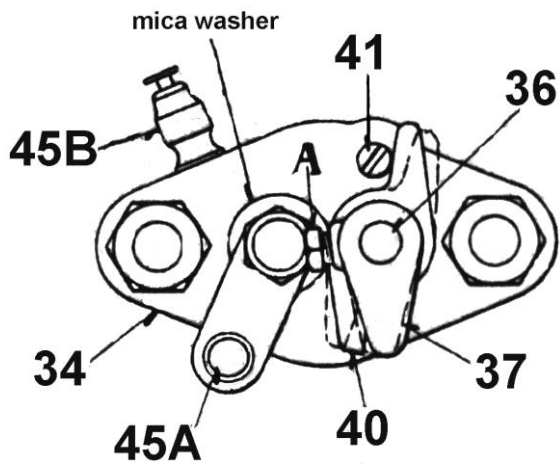
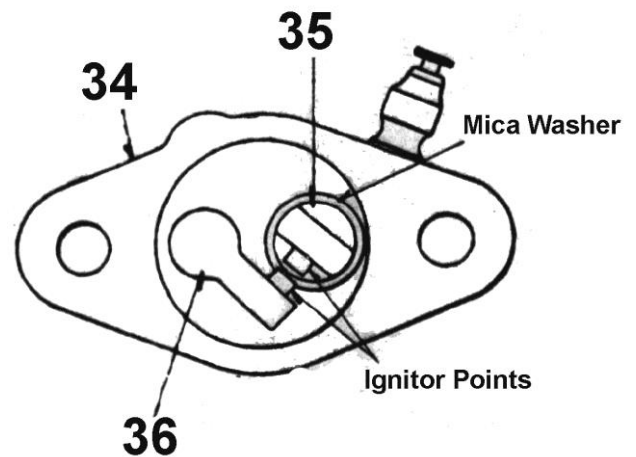

Fig. 10 - Front View
Fig. 11 Rear View
TESING IGNITOR – To test the ignitor for short circuit, leave the wire which is attached to the insulated post in place, loosen the other wire and rub it on the engine or ignitor (but not on the binding post to which the other wire is attached). If a spark is produced when the ignitor points are not in contact, it is evidence of a short circuit through the stationary electrode (No35, Fig. 11, below), of the ignitor. In this case the electrode must be taken out and supplied with new mica insulation (see mica washer, Figs. 10 & 11 below), or the old insulation adjusted so that the electrode does not come in contact with the main parts of the ignitor called the ignitor plate (No. 34, Figs 10 & 11 below)
To test the ignitor further, hold the ignitor points (see Fig.11 below) together, rubbing the wire, which has been loosened from the moveable electrode (No. 36, Fig. 10 & 11 below) on any bright part of the engine. *Now*, a spark should be generated wherever the detached wire touched the engine. If *there is no spark*, the ignitor points are dirty, in which case they should be thoroughly cleaned, and scraped with a knife blade.
7. Occasionally the movable electrode (No.36, Fig.10 & 11) is dirty or tight, and sticks, so that it does not operate freely, or perhaps not at all. If the points do not snap apart quickly, the spark will not be live one. If the ignitor is stuck so that the points do not operate at all, there will, of course, be no spark. In either case, the movable electrode (No. 36, Figs. 10 & 11) should be taken out and cleaned.